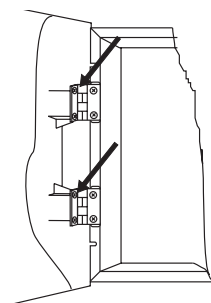

Figura 3.
- Abra el panel frontal, figura 3.